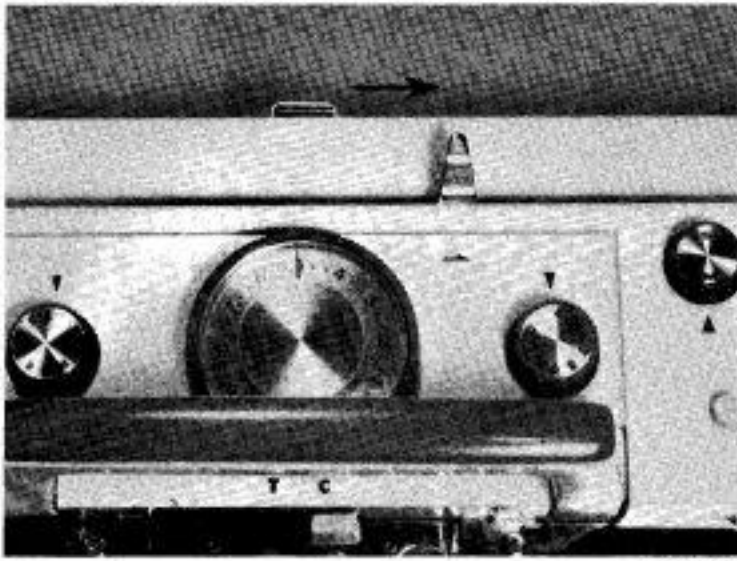
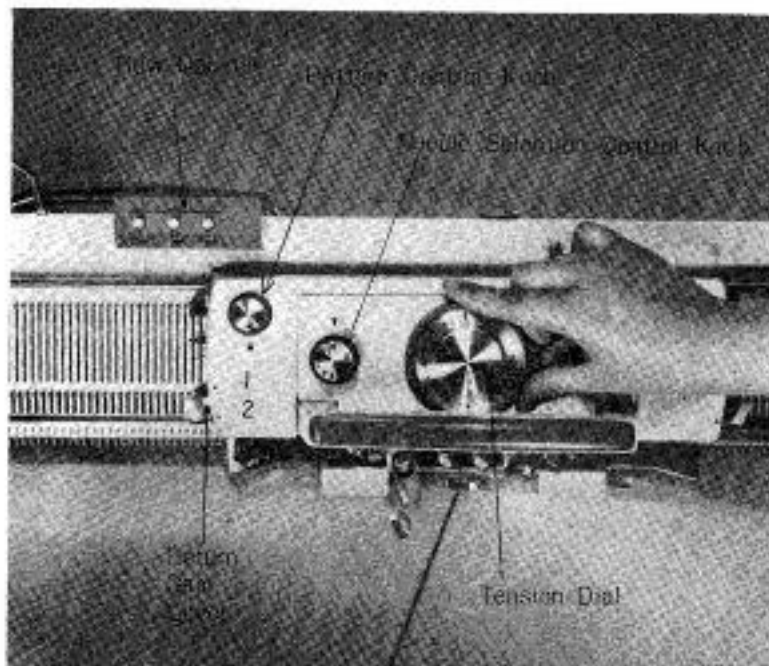

Fig. 13
Fig. 28
Note: To bring Row Counter into operation, just tap the Row Counter Trip Arm with your finger in direction shown by the arrow on the carriage cover— see Fig. 13.
- a) Set Tension Dial to No.1 or 2 (Fig.28)
- c) Move both Return Cam Levers to Position "2" i.e. Forward Position. (Fig. 28)
- d) Depress and turn Needle Selection Control Knobs to No. 4 opposite pointer. (Fig. 28)
- e) Turn Pattern Control Knobs to 'A' opposite pointer. (Fig. 28)
- f) Turn Row Counter to zero. (see Fig. 28)
- k) With the carriage on the right push out the Row Counter Trip Arm (Fig. 13) and turn the Tension Dial to No. 4 or 5. (Fig. 28)
- l) Turn both Pattern Control Knobs to 'M'. (Fig. 28)
- a) Set Tension Dial to No. 4 or 5. (Fig. 28)
- c) Move both Return Cam Levers to Position "2". (Fig. 28)
- e) Turn Pattern Control Knobs to "A" opposite pointer. (Fig. 28)
- d) Turn Needle Selection Control Knobs to No. 4 opposite pointer. (Fig. 28)
- e) Turn Pattern Control Knobs to "M" opposite pointer. (Fig. 28)